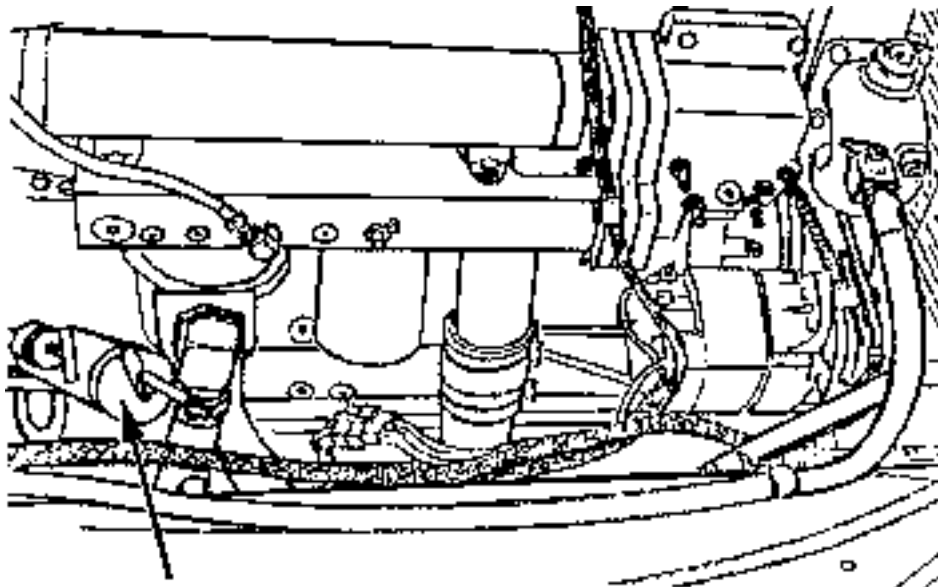

Fig. 5.14. Engine Oil Filler
5. Fill the crankcase with fresh oil (Fig. 5.14). Refer to the "REFILL SPECIFICATION AND CAPACITIES CHART".